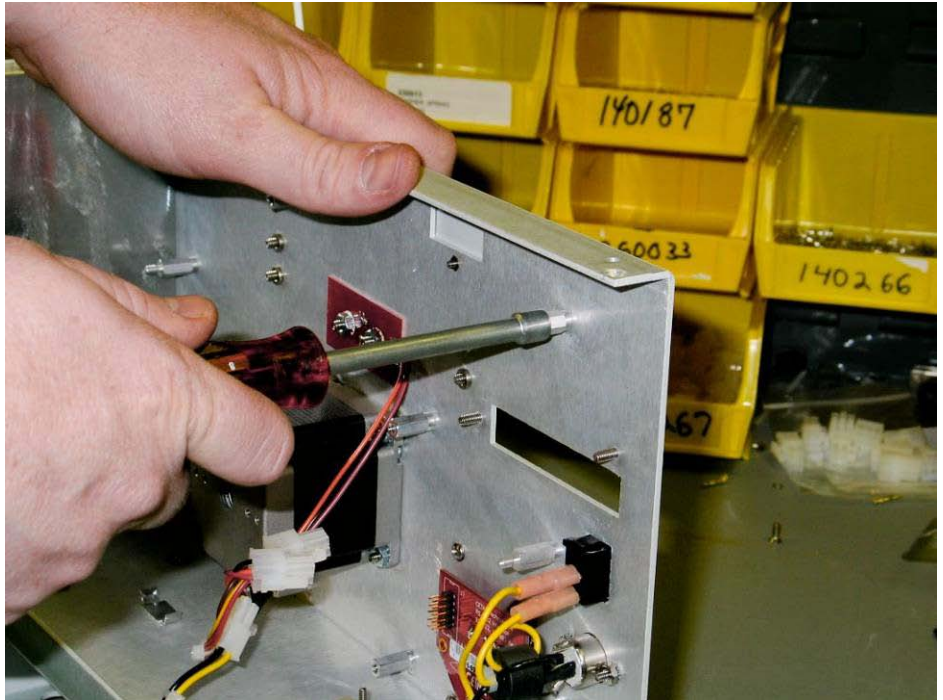

Figure 1-37 Removal of stand-off (ASX-260).
11. Remove stand-off with 1/4" nut driver and discard (Figure 1-37). Remove the spacer located under the stand-off and place with the other two spacers received with the installation kit.